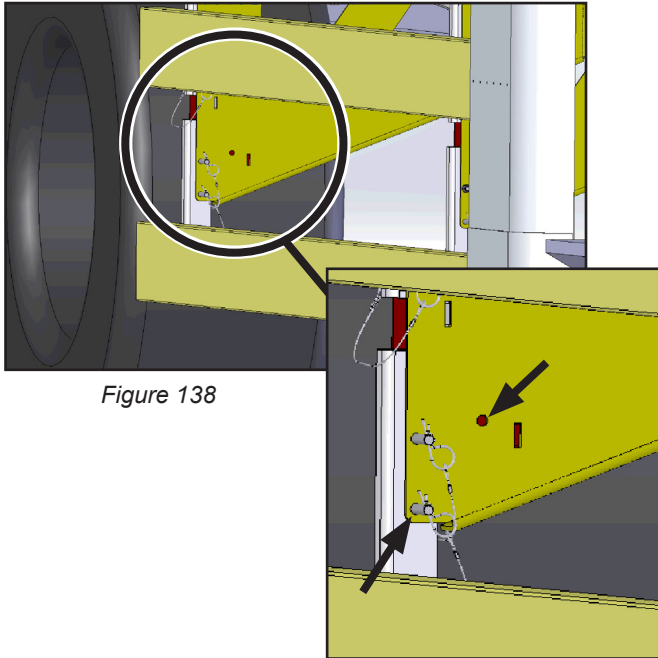

Figure 138
1. To rotate the bottom rail of the lateral protection device up for increased ground clearance at the job site, hold onto the rail assembly and remove the **lower pin** from both sides of the bottom rail (Figure 138).
2. Rotate the bottom rail assembly up until the open holes on the LPD rail and the LPD gusset align (Figure 138).